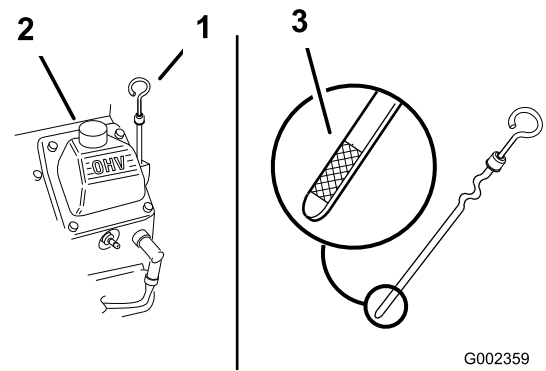

Figure 21
3. Clean around the oil dipstick (Figure 21) so that dirt cannot fall into the filler hole and damage the engine.
5. Unscrew the oil dipstick and wipe the end clean (Figure 21).
6. Slide the oil dipstick fully into the filler tube, but do not thread onto tube (Figure 21).
6. Slowly pour approximately 80% of the specified oil into the filler tube (Figure 21).